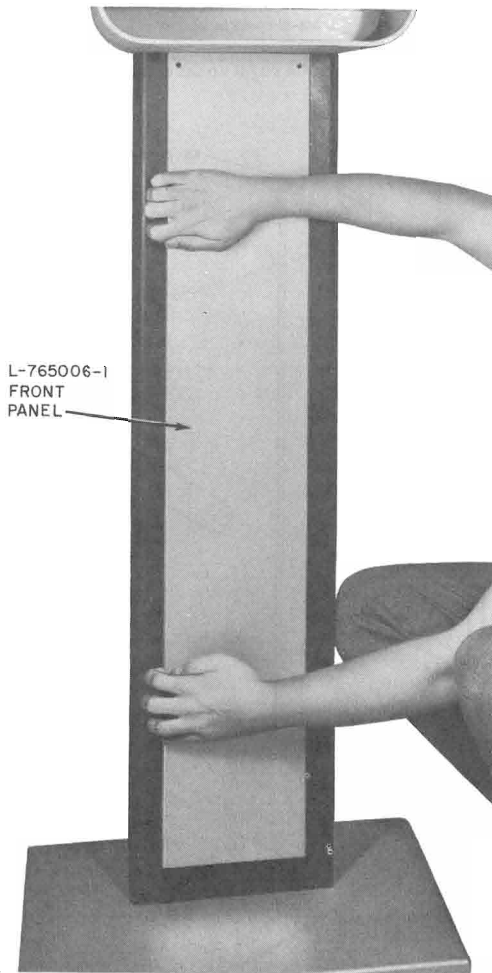

Fig. 10—Installing or Removing the Front Panel on Post Assembly
- (6) The base is secured to a masonry surface with ten 1/2 by 3 machine bolts. Select the proper anchor to accommodate this size bolt and drill holes to accept the anchors.
- (7) The base is secured to a wooden surface with ten 5/8 by 3 lag screws. Drill 1/2-inch lead hole 2 inches deep for these screws.
- (8) Lay the List 40 post adjacent to the mounting area with the recessed area up.
- (9) Using a KS-19192, List 1 wrench, remove the two flat head screws from the upper part of the front panel. Remove the panel from the post as follows:
- (b) Place both hands on the left side of the panel as shown in Fig. 10.
- (10) Remove the four 5/8-11 by 1-3/4 hex head cap screws and four 5/8-inch flatwashers
- (1) Position the locking flange on right side of the front panel against the right-side opening of the post.
- (2) Pull both top and bottom of the panel to the right at the same time (Fig. 10) until the flange on left-side of the panel drops past the opening on the left side of the post, then release the panel which will lock in place.
- (3) Using a KS-19192, List 1 wrench, install the two L-765065-2 flat head security screws (No. 10-32 by 1/2), removed in 3.03(9), through the upper part of the panel and into the post.